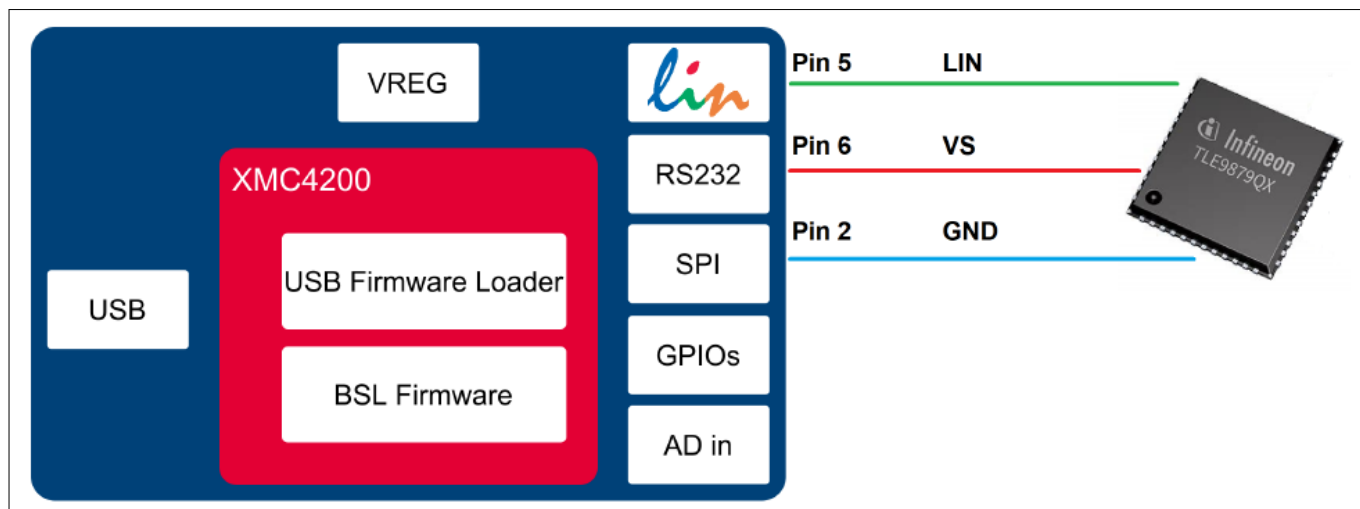

Figure 3 Normal LIN and FastLIN connection, without reset, target supplied by μIO-Stick
Figure 3 shows the minimum required connection from the μIO-Stick to the target device in order to establish a BSL communication over the LIN interface. This applies to both Normal-LIN and FastLIN protocols. To be able to establish a BSL connection, the target device either has to stay in BSL mode upon power-up (fresh device), or a power cycling (VS - pin 6) done by the μIO-Stick is required.
- OFF during Reset - the μIO-Stick integrated charge pump is switched off during the reset phase before the connection attempt is started, see also Figure 3. This setting is meant to provide a power-on reset and can be used in case the RESET pin of the target device is not accessible.